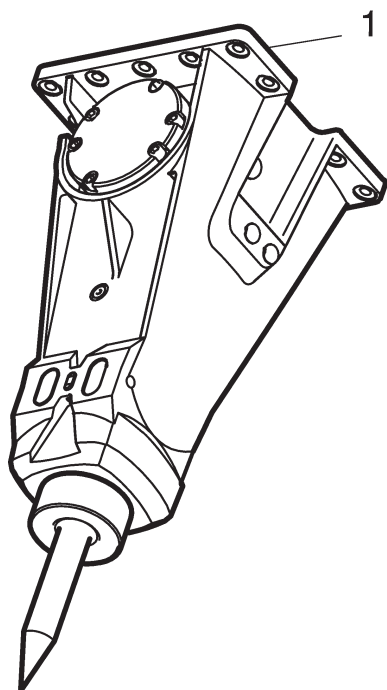

Fig. 1
- Fig. 1 shows the location of the hammer's CE-plate on which the serial no. is given. On the hammers the serial no. is also stamped on the adapter plate surface.